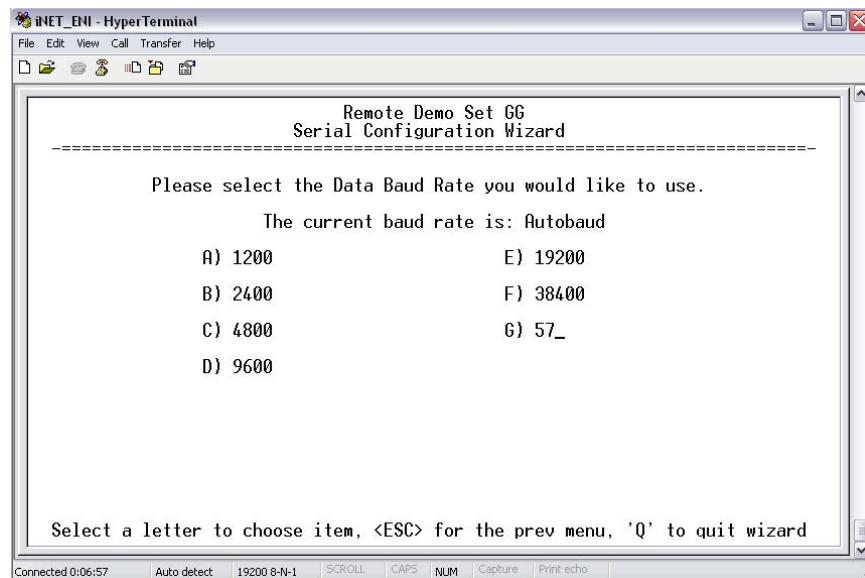

Figure A-7. Select Data Baud Rate
6. Press **A** through **G** to select the baud rate you want the iNET/ENI to use when communicating with the serial device. See Figure A-7.